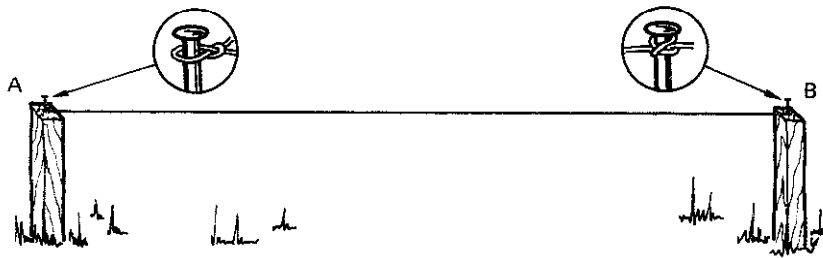

Fig. 4-46 Stretching a layout between stakes
1. Make a small loop with a half-hitch knot at one end of the line. See A, figure 4-46.
3. Unwind the layout line. Stretch it to the opposite stake or batter board at the desired location. See B, figure 4-46.